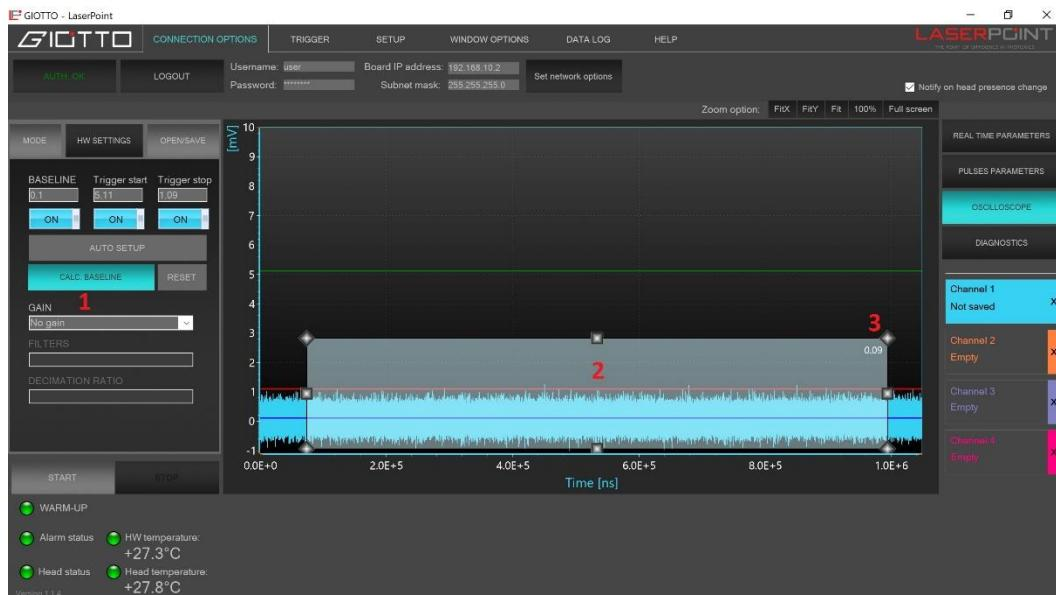

Figure 11
3. Automatic Baseline setting, activated by pressing CALC BASELINE (1, **fig.11**)
4. In the grey rectangular area (2, **fig.11**) the optimized Baseline value is calculated ad displayed (3, **fig.11**)